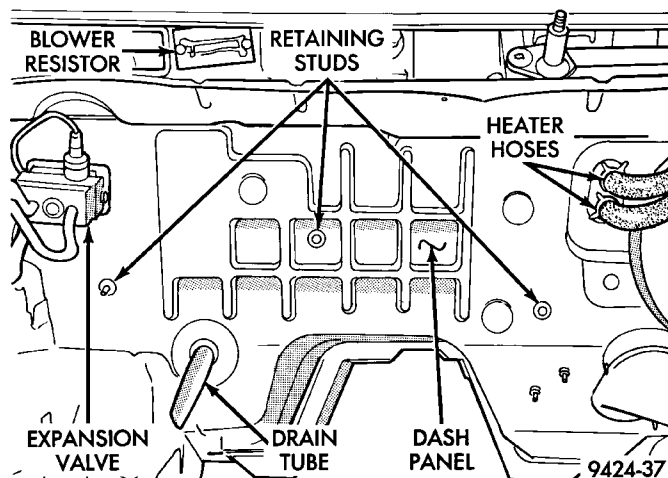

Fig. 44 Dash Panel Studs
(1) Remove instrument panel from vehicle. Refer to group 8E Instrument Panel and Gauges for detailed procedure.
(2) Drain cooling system and remove heater hoses at the dash panel. Place plugs in the heater core outlets to prevent coolant spillage during unit housing removal.
(3) Using a refrigerant recovery machine, remove the refrigerant from the A/C system, if equipped.
(4) Remove suction line at expansion valve. Place a piece of tape over open refrigerant line to prevent moisture and/or dirt from entering the line.
(5) Remove expansion valve from evaporator. Place a piece of tape over open evaporator fitting to prevent moisture and/or dirt from entering the evaporator.
(6) Remove rubber drain tube extension from condensation drain tube.
(7) Remove three retaining nuts located in the engine compartment, on the dash panel (Fig. 44).